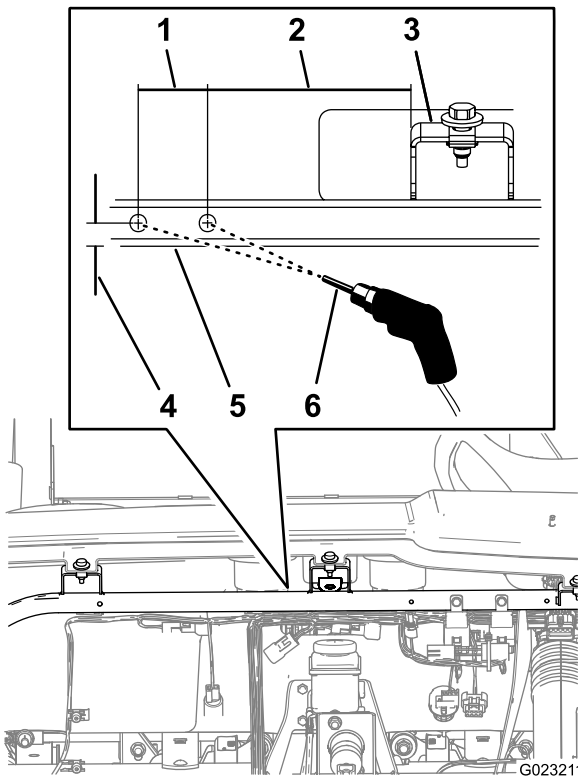

Figure 14
- Standing in front of the machine, measure 106 mm (4-3/8 inch) left from the left face of the center-support bracket and 12.7 mm (1/2 inch) from the bottom of the dash-support tube (Figure 14).
3. From the center punch mark, measure left 38.1 mm (1-1/2 inch) and 12.7 mm (1/2 inch) from the bottom of the dash-support tube (Figure 14).
5. Drill the dash-support tube at the center-punch marks with a 5.5 mm (7/32) drill bit (Figure 14).